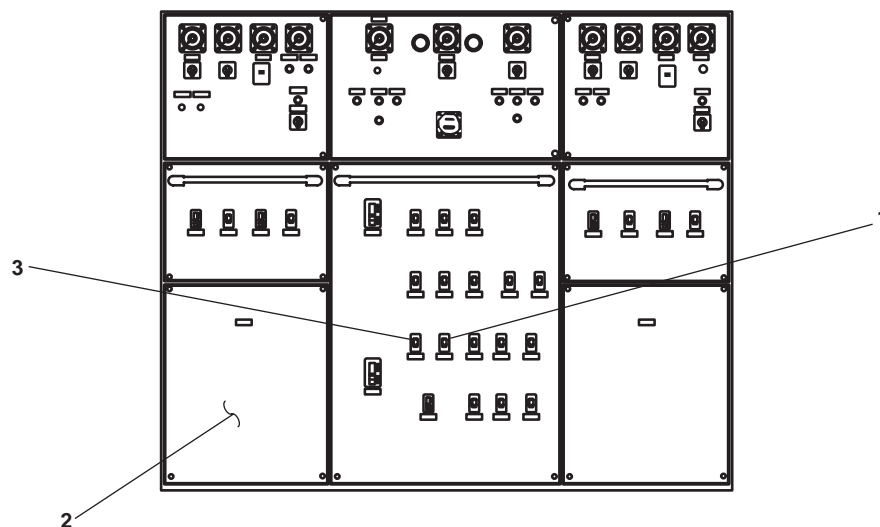

Figure 1. Main Switchboard
1. Set to ON the AUX MACH SPACE NO. 1 PWR PNL NO. 4 circuit breaker (figure 1, item 1) at the main switchboard (figure 1, item 2) in the EOS.